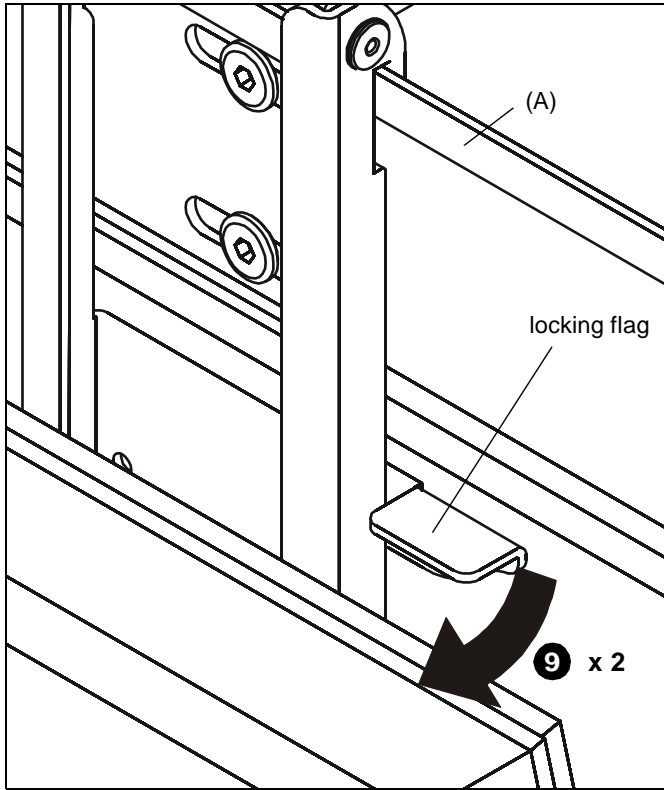

Figure 6
9. Rotate flags on each interface bracket down to the closed position in order to lock brackets to wall plate. (See Figure 6)